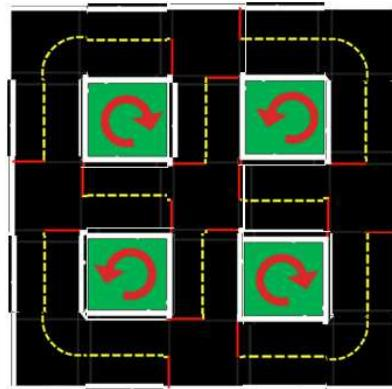

Figure 18.3. The Demo Map
Dream scenario intersection coordination: Duckiebots loop through the map as indicated in Figure 18.3. At the intersections the Duckiebots coordinate implicitly. Demo can run indefinitely without collision. Tunable: density of the traffic (fleet size) and the speed.
- The tiles to build the map in Figure 18.3